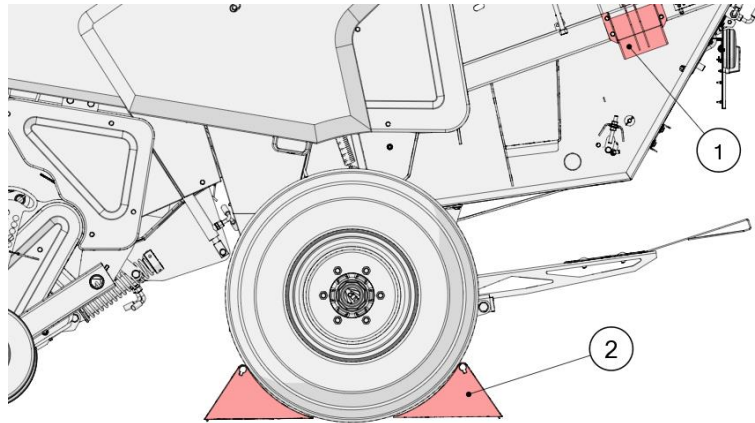

Figure 46. A ground wheel protected with a chock
Before uncoupling the machine from the tractor, secure the ground wheels with the chocks (2) located in the holders (1) on the left- and right-hand side of the machine (Figure 46).